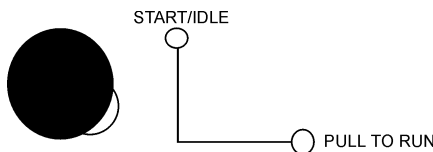

Figure 21. Engine Throttle Lever (IDLE)
6. Make sure the engine throttle (Figure 21) is in 'start/idle'.